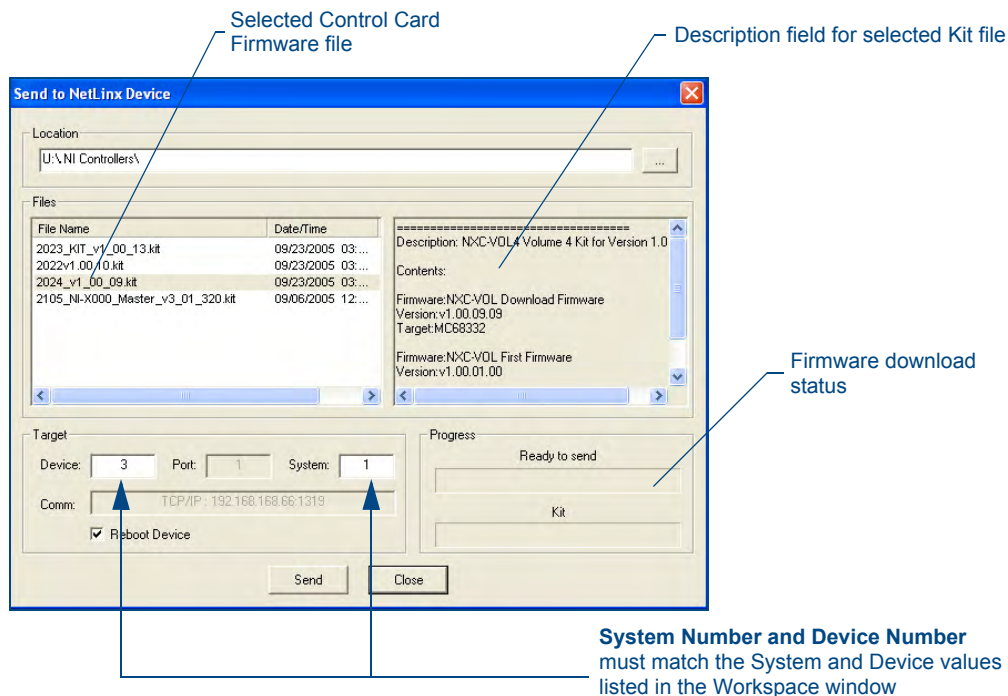

FIG. 10 Select Control Card firmware file for download page (via IP)
8. Select **Tools > Firmware Transfers > Send to NetLinX Device** from the Main menu to open the Send to NetLinX Device dialog (FIG. 10). Verify the target's **Device** and **System** numbers matches the value listed within the System folder in the Workspace window.
9. Select the Control Card's Kit file from the **Files** section (FIG. 10) (*in our above example we chose to update the NXC-VOL4 card*).
12. Click **Send** to begin the transfer. The file transfer progress is indicated on the bottom-right of the dialog (FIG. 10).